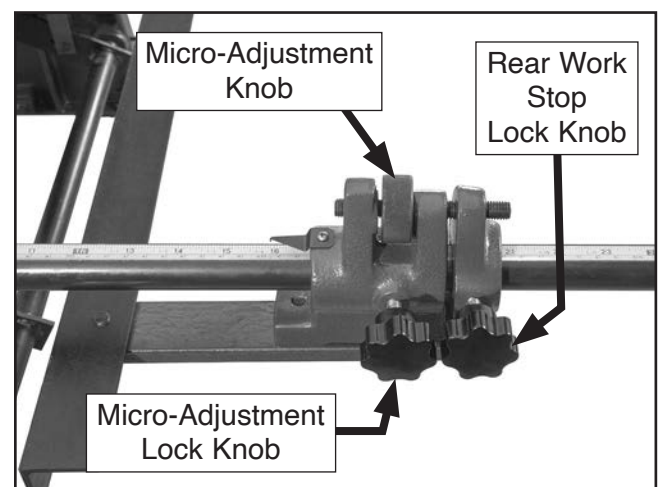

Figure 19. Location of rear stop work lock knob and micro-adjustment lock knob.
1. Loosen (2) rear work stop lock knobs and (2) micro-adjustment lock knobs (see **Figure 19**).
3. Tighten (2) rear work stop lock knobs.
4. Use micro-adjustment knob on each assembly to adjust work stop in small, precise amounts until they are exactly where needed (see **Figure 19**).